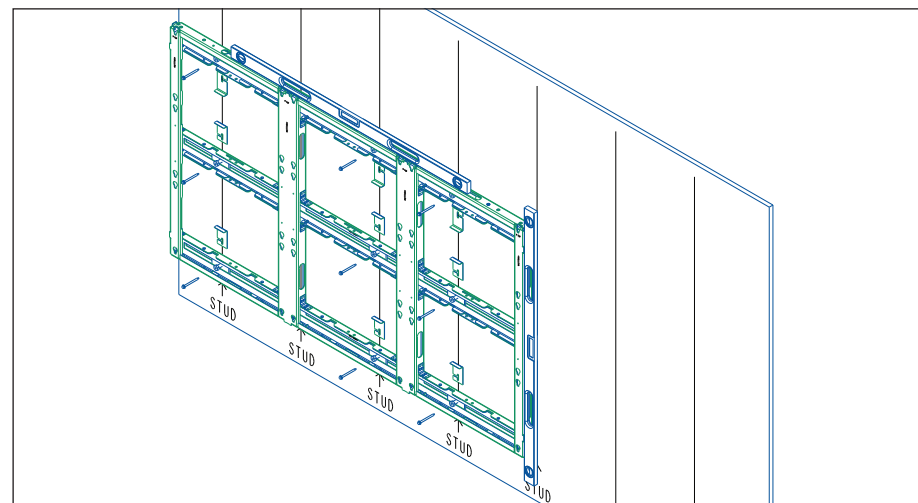

Figure 4: Install TEK Screws in Remaining Bolt Assemblies
6. Depending on site-specific conditions, attach the frame to the substrate using TEK screws (HC-3979953), Spax screws, or lag screws. Install the screws through the hollow bolts into the respective studs. Start with the frame corners first, and fill in remaining available screws. Refer to **Figure 4**.